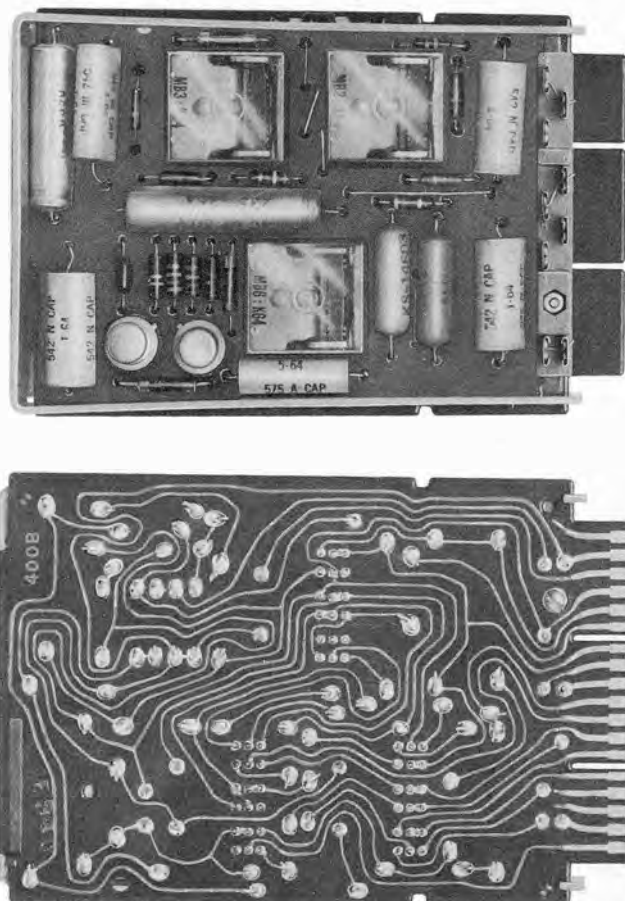

Fig. 1 — 400B Key Telephone Unit
2.06 The 400A and B KTUs (Fig. 1) are identical units with the exception of an additional diode (CR4) connected on the 400B KTU. This diode serves to prevent a system from falsely indicating an incoming call at a station following a momentary power interruption.
- 4.01 The printed circuit wiring extends to the contacts of the KTUs, which are on one side of the circuit board along the plug-end (Fig. 1, 2, and 3). See Table C for lead designations.